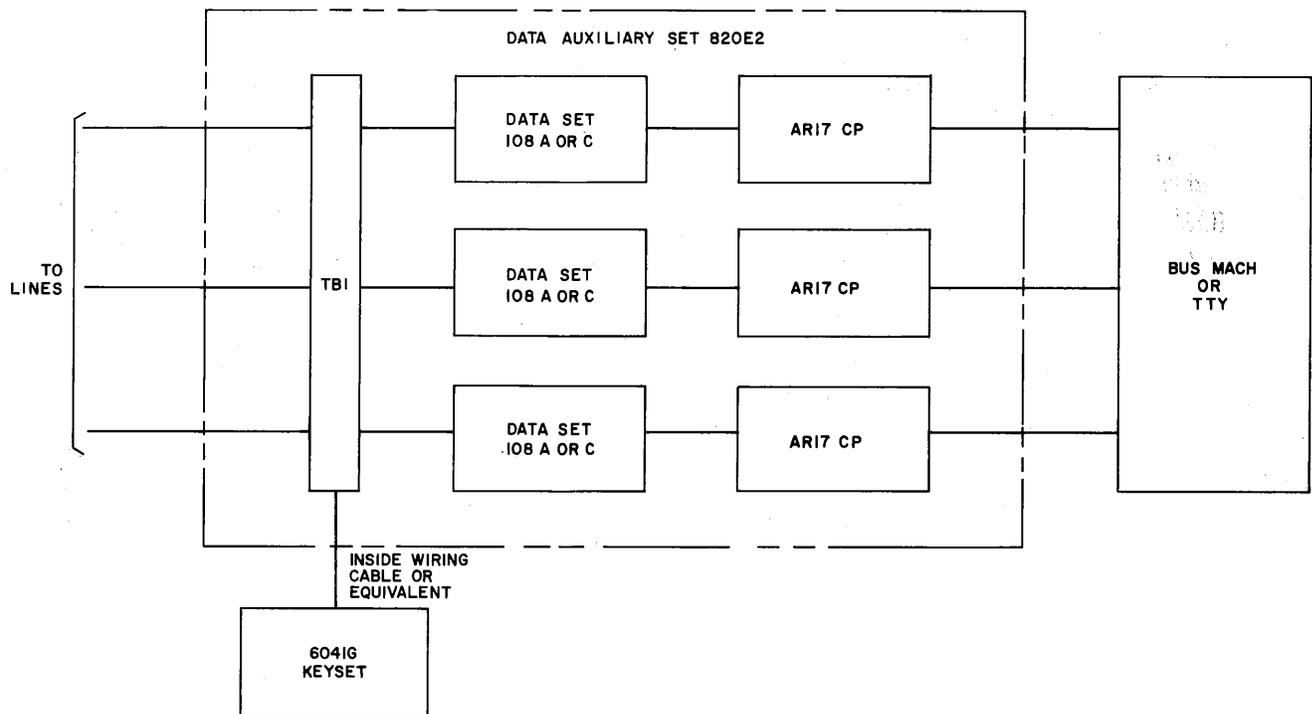

Fig. 3—Functional Block Diagram, Data Set 108A- or C-Type, Multiple Private Line Station Using Data Auxiliary Set 820E2
3.01 The data set 108A and C multiple private line station arrangement (Fig. 3) provides up to 12 interface circuits (Table A) between the Bell System or customer-provided terminals (CPTs) and the data sets.